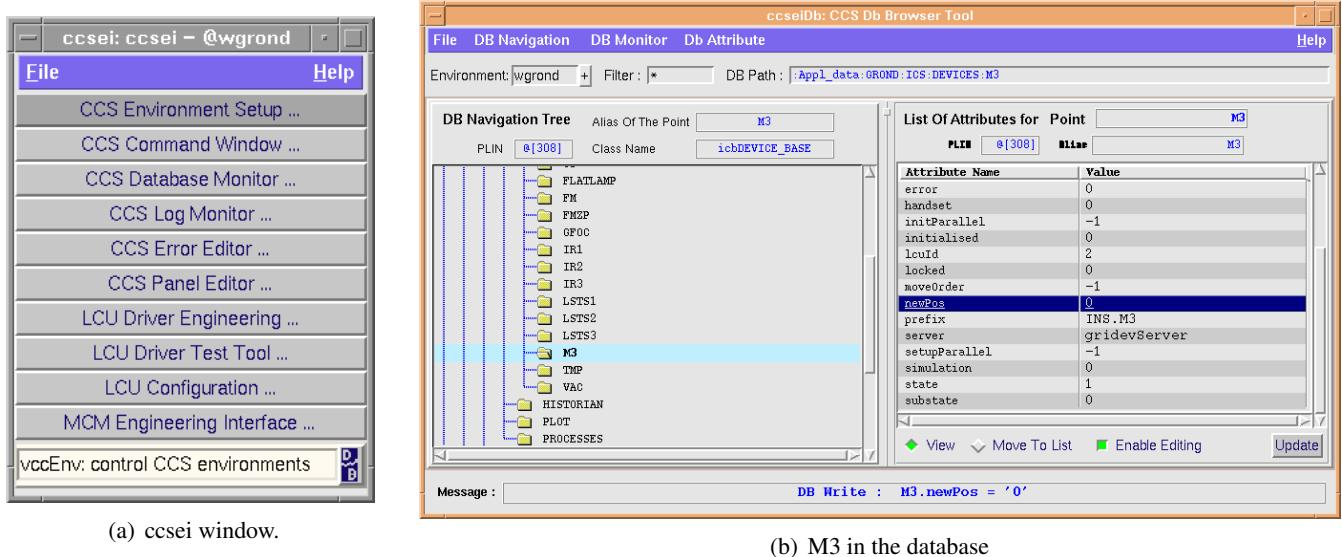

Figure 10.10: Writing the M3 position in the database
- Write the mirror position in the database (Fig. 10.10, p. 94)